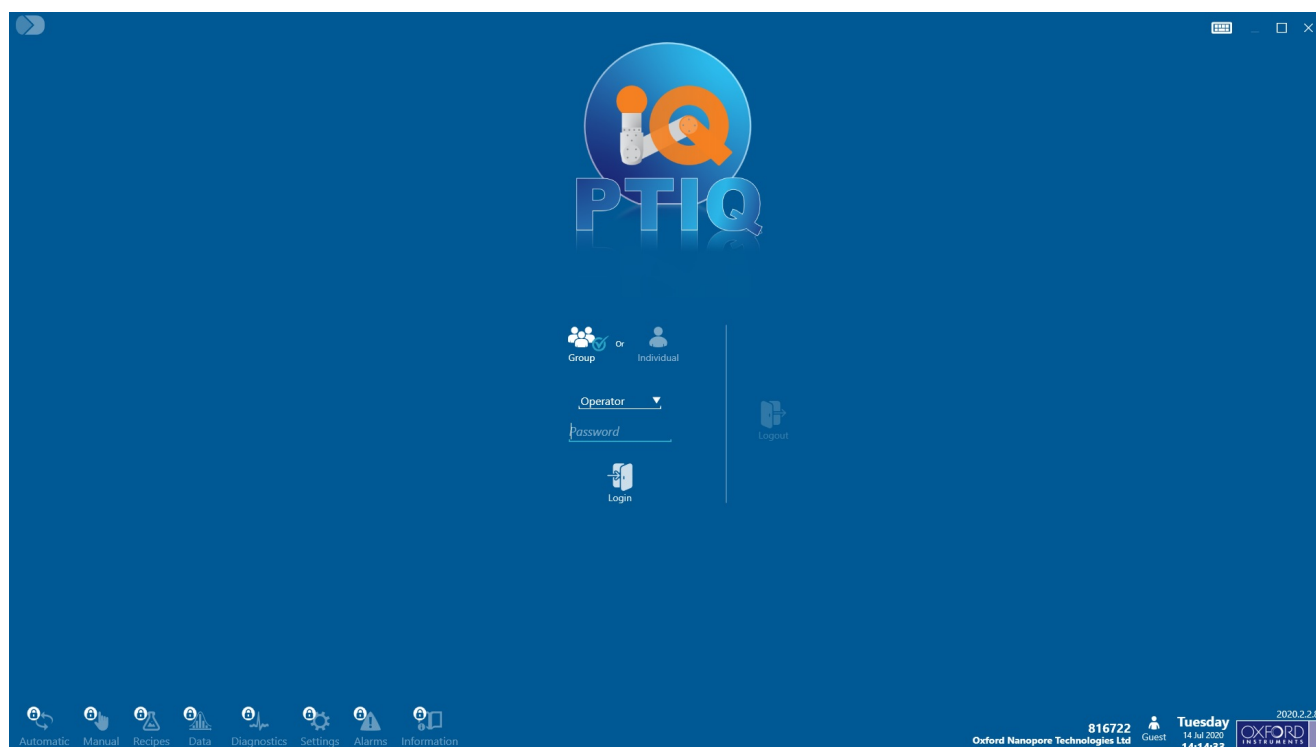

Figure 4-5 PTIQ login page
When the PTIQ application is first started, the Login page opens (Figure 4-5). You can also access this page at any time by selecting the user icon from the bottom right of the page (see Figure 3-6).
- 8 To change to a different login level or user, click on your login name at the bottom of the page. This returns you to the login page, see Figure 4-5.